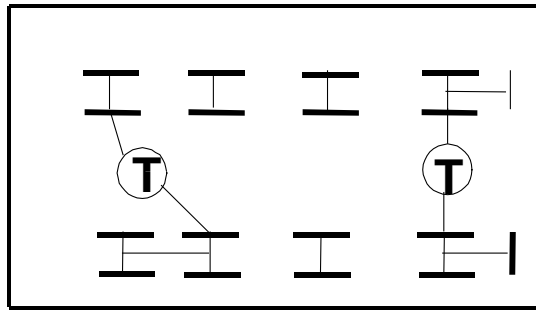

Fig. 2 Wired For 100VAC Operation
Step 1: Wire Power Transformer Terminal Block as illustrated in Figure 2.